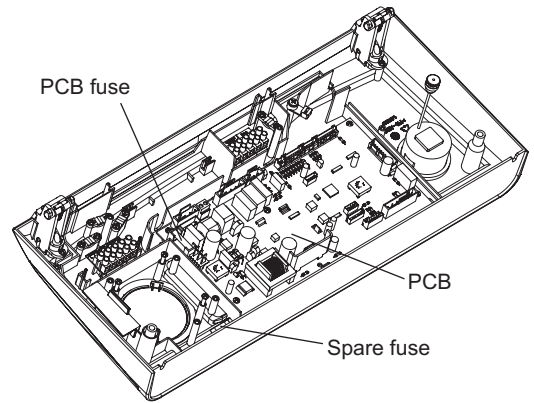

Fig. 24
7.11 FUSE - Fig. 24
Note: A spare fuse is supplied, as shown in Fig. 24.
7.12 PCB - Fig. 24